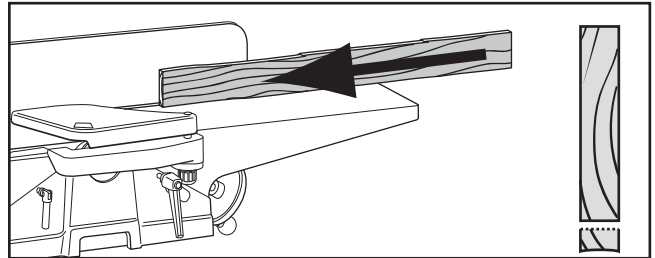

Figure 35. Edge jointing on the jointer.
3. **Edge Joint on the Jointer:** The concave edge of the workpiece is jointed flat with the jointer (see **Figure 35**).